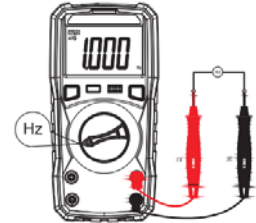

Figure 7
**(7).FREQUENCY MEASUREMENT (Figure 7)**